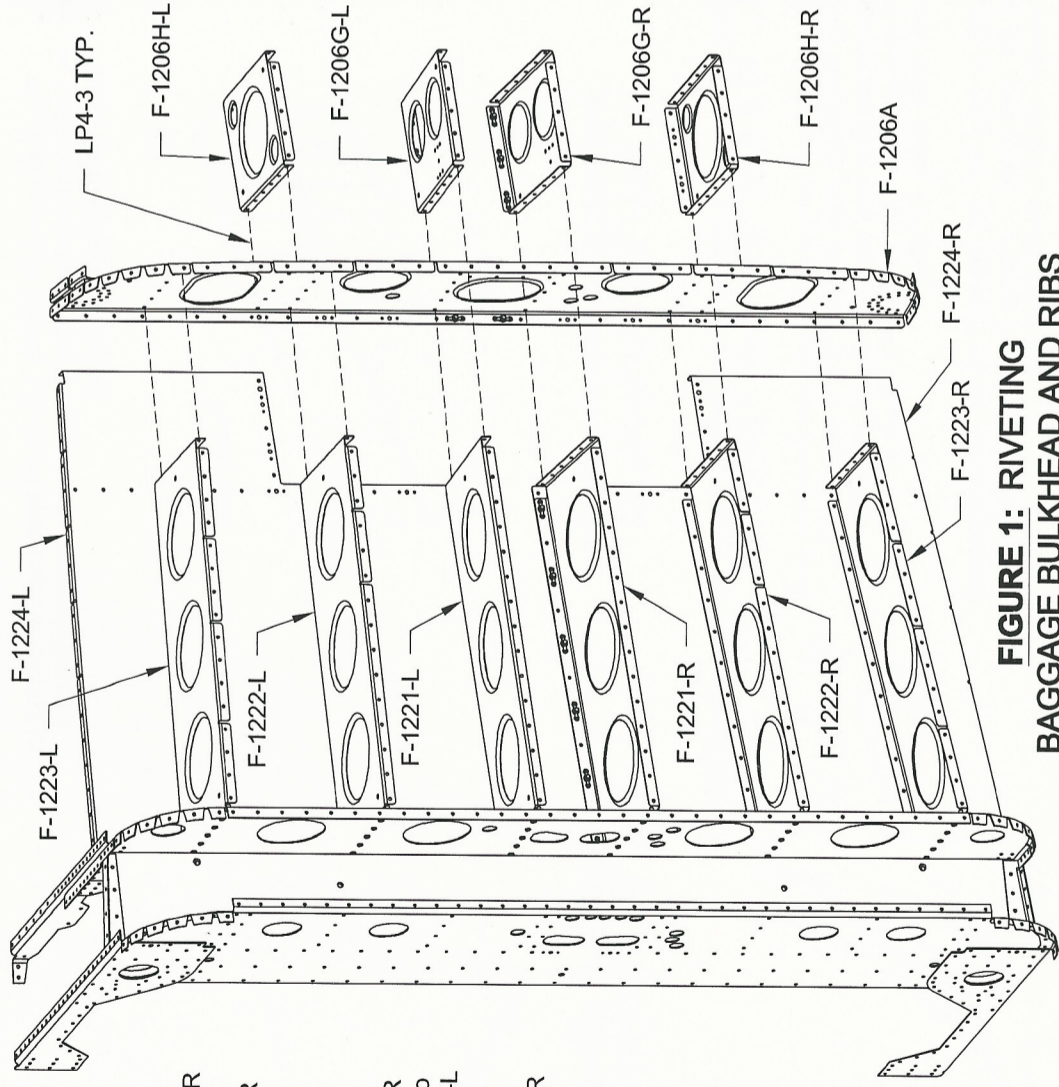

FIGURE 1: RIVETING BULKHEAD AND RIBS
Step 1: Rivet the F-1206A Bulkhead to the F-1222-L & -R and F-1223-L & -R Baggage Ribs using the rivets called out in Figure 1.
Step 2: Rivet the F-1206G-L & -R Baggage Ribs to the F-1206A Bulkhead and the F-1221-L & -R Baggage Ribs using the rivets called out in Figure 1.
Step 4: Rivet the F-1206H-L & -R Baggage Ribs to the F-1206A Bulkhead using the rivets called out in Figure 1.